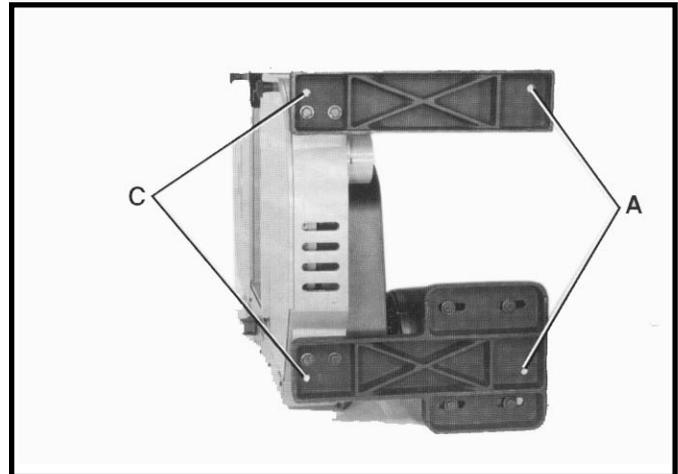
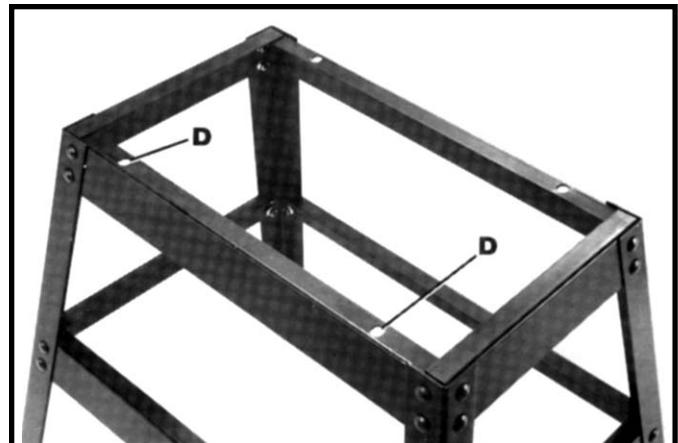

Fig. 4
Fig. 5
1. Fig. 4 illustrates the two through holes (A) and two threaded holes (C) which will be used to secure the band saw to the stand.
2. Place the band saw on top of stand and line up the two threaded holes (C) Fig. 4, with the two holes (D) Fig. 5, on upper brace of stand.